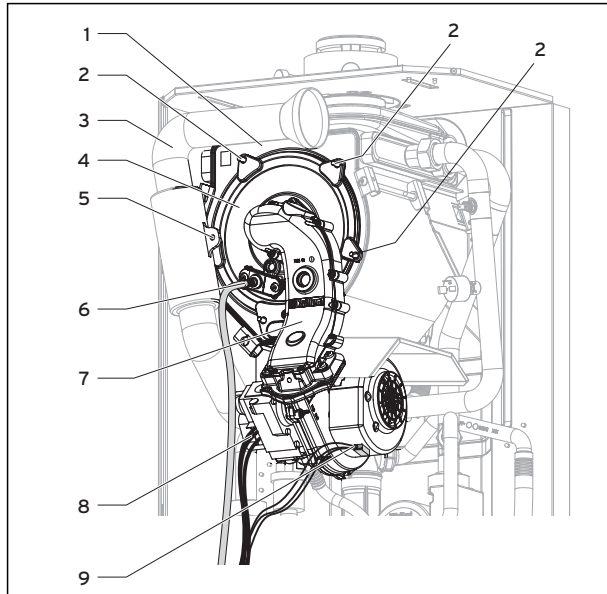
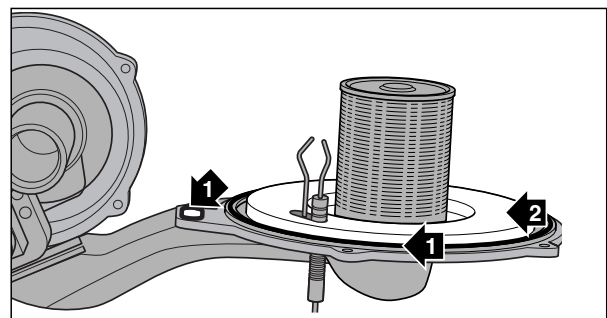

Fig. 7.1 Dismounting/Mounting the compact thermal module
Fig. 7.3 Checking seals and burner flange insulation
The compact thermal module consists of a speed-controlled fan, combined gas/air electronic gas valve, the gas supply (mixer tube) for the fan of the pre-mix burner and the pre-mix burner itself. These four components make up the complete assembly that is the compact thermal module. Proceed as follows to dismantle it: (see fig. 7.1)
The two seals (1) on the compact thermal module (fig. 7.3) must be replaced every time the compact thermo module is removed. The burner flange insulation (2) on the compact thermal module (fig. 7.3) must not show any signs of damage; if it does, it must also be replaced (minor cracks are acceptable).
- Put the compact thermal module (4) onto the heat exchanger (1) (fig. 7.1).
- Tighten the five nuts (2) evenly and crosswise.
- Put the air intake pipe (3) onto the intake socket and tighten the screw (5).
- Connect the gas supply line (10) with a new seal (SP no. 98-0012) to the gas fitting (fig. 7.3). Use a smooth jawed spanner to tighten the gas pipe union nut and to hold the gas fitting.
- Connect the two plugs of the ignition and earthing cables to the ignition electrode (6).
- Connect the cables (9) to the fan motor and the cable (8) to the gas fitting.